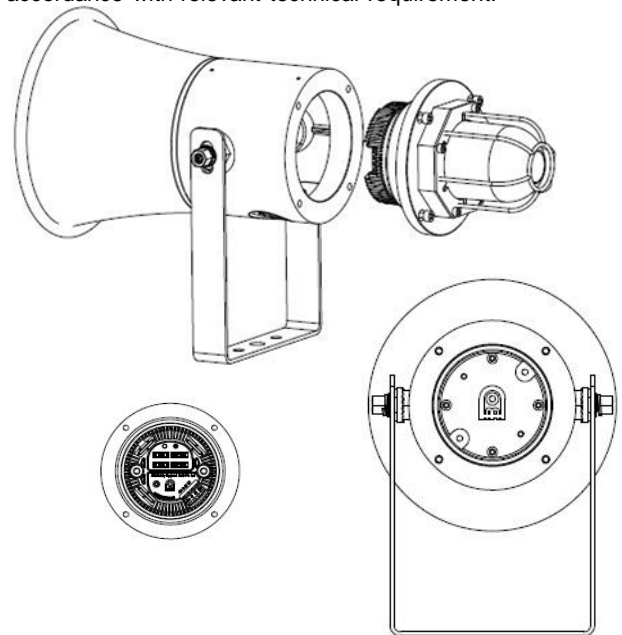
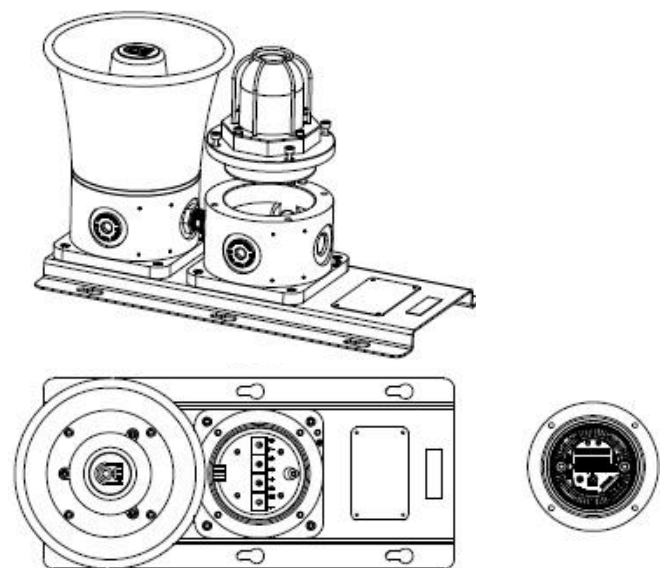

Fig 3A Single Unit
Fig 3B Combined Unit
The cable connection is connected with the terminal blocks on the electronic **PCB** assembly located in the flameproof enclosure of the **Beacon Component** (For Single Unit, See Fig 3A); or assembly located in the bottom unit which can be **Beacon Component** ( For Combined Unit, See Fig 3B) or Push Button or Junction Box. Cable connection should be carried out in accordance with relevant technical requirement.
**CAUTION:** Before removing the cover, ensure the power to the product is isolated. Unscrew the 4 (SB 125) or 6 (SB 150) M5 retained hex socket head screws of the **Beacon Component** (See Fig 3A/B) to open the End cover. Twist the cover gently clockwise and anti-clockwise, whilst pulling away from the base, until it comes off.